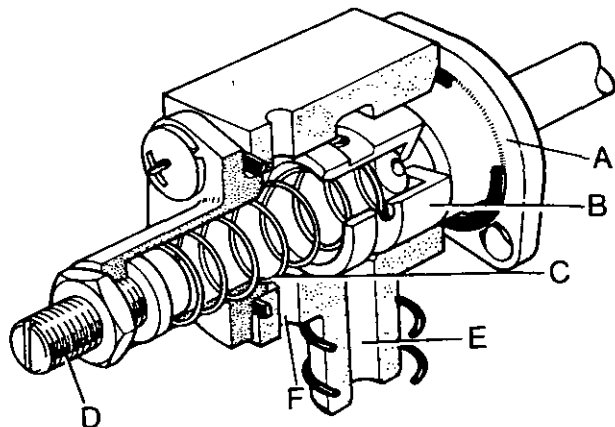

FIGURE 44 SEQUENCE TIMING VALVE
1. Disassemble the sequence valve. See figure 44.